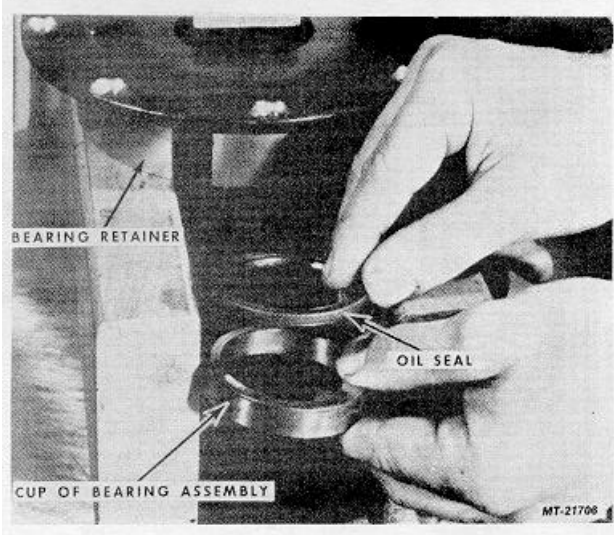

Fig. 14
11. Press out Oil Seal and the cup of Bearing Assembly, Fig. 14.